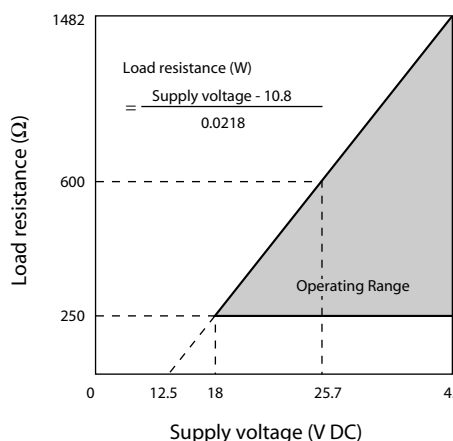

Figure 3 Supply voltage vs. load resistance characteristics
17.9 to 42 V DC. Reverse polarity protection is standard. A load resistance of 250 Ω or more is necessary between loops. See Figure 3.